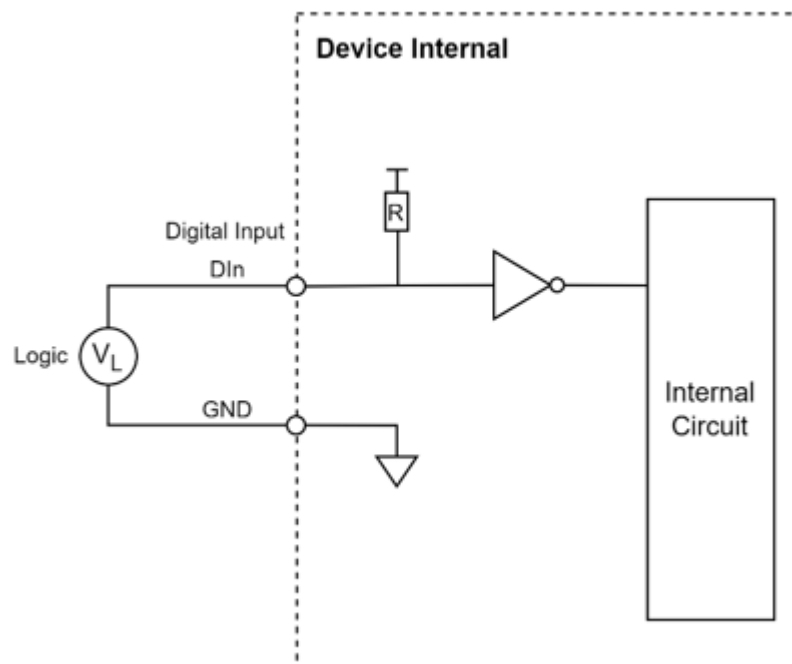

Figure 2.2 Digital input signal connection
A digital input/output (DI/O) channel can be configured by software to perform digital input measurement, which is the power-on default configuration, or digital output generation. When configured for digital input measurement, the voltage logic level between the digital input (DI) terminal and the digital ground (GND) terminal is measured. To prevent indeterminate or fluctuating results when the input is floating, the digital input channel is pulled up by default. This is shown in Figure 2.2.